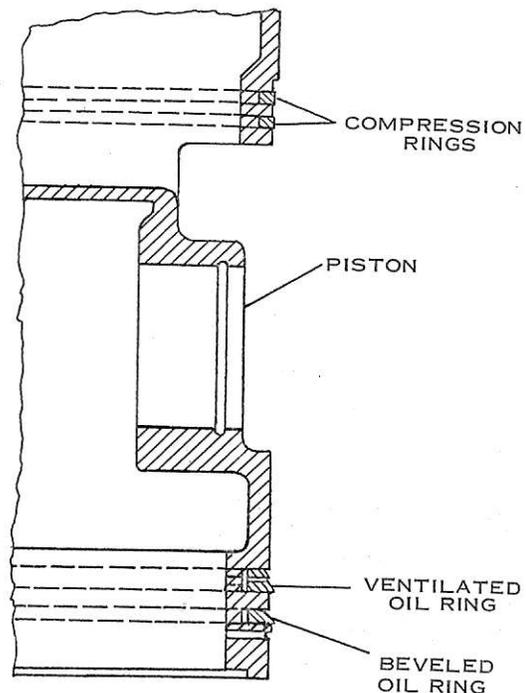

FIG. 43— Piston Ring Arrangement
1. Using the strips of brass shim stock or equal, slide the second (from the top) compression ring over the first groove and place it in its groove. Slide the top ring into position in its groove, invert the piston and place the ventilated oil cutter ring into its groove in the bottom of the piston skirt. Place the beveled oil ring in its groove at the bottom of the piston with its greatest width downward away from the piston top (beveled edge of the ring toward the top of the piston). (See Fig. 43.) This assures that oil on the cylinder walls is "scraped" or moved downward toward the crankcase rather than upward.